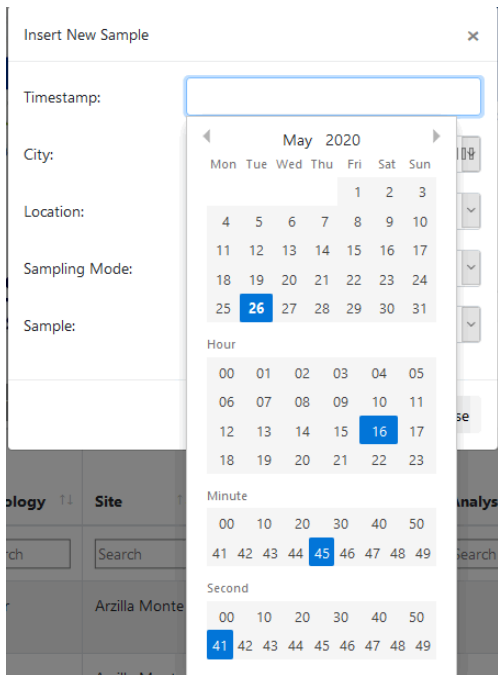

Figure 38 - Insert New sample form. Calendar.
*Timestamp* form (format yyyy-mm-dd hh:mm:ss) or select date and time by using the popup calendar (Figure 38);